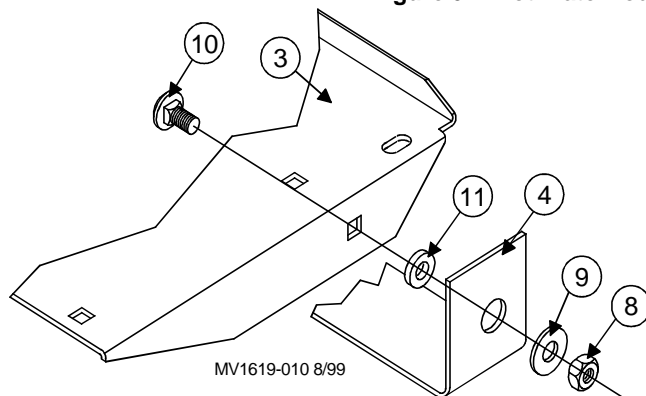

Figure 8. Assembly Detail
See Figure 8. For Details
6. Mount the Pivot Motor Mount Plate, on the new U-Motor Mount Bracket using the two carriage bolts, with the bolt head to the inside, **see Figure 8**, bushings, flat washers, and lock nuts which are provided.